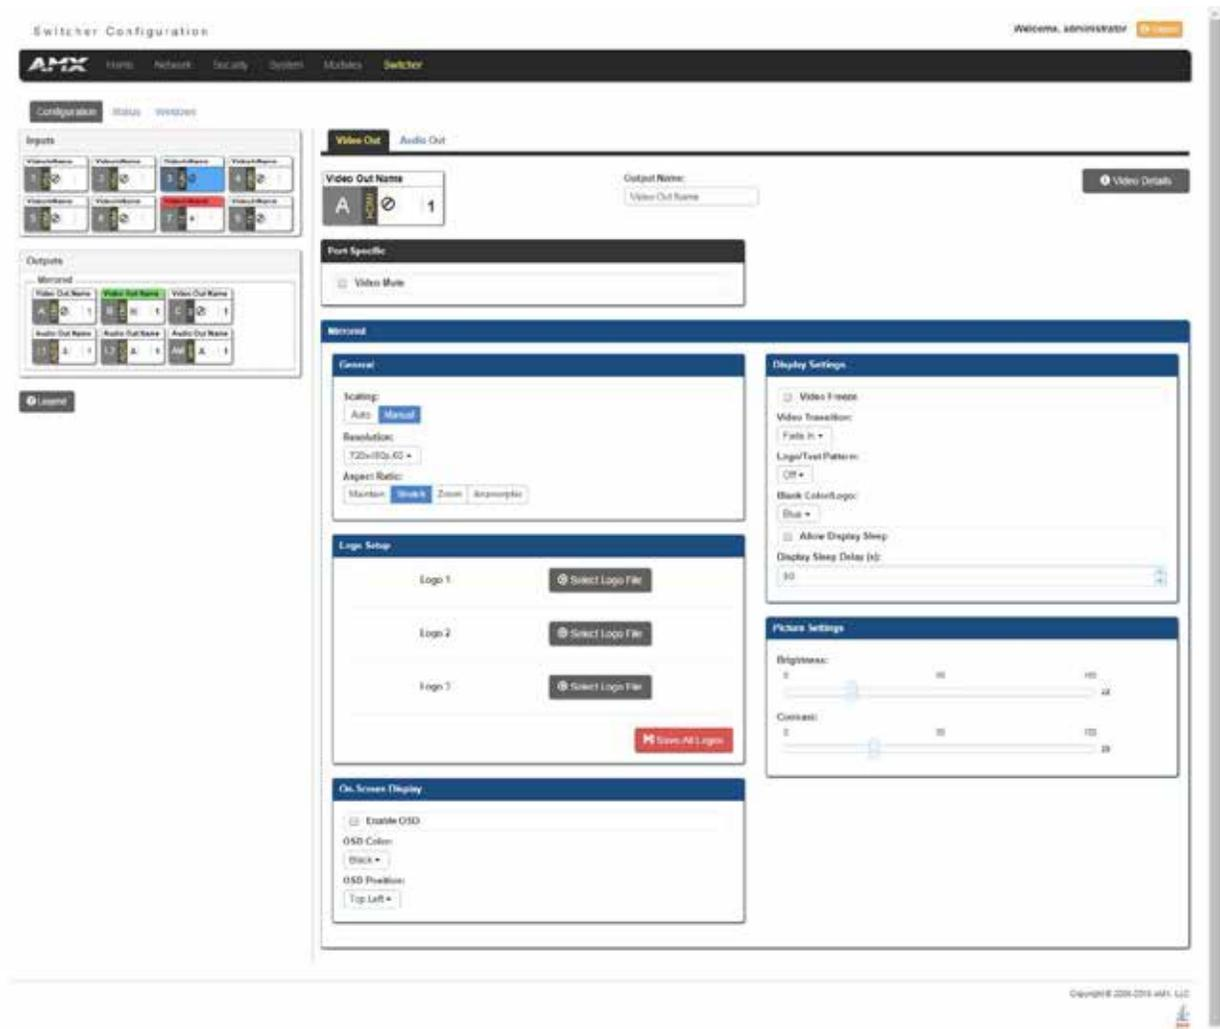

FIG. 96 WebConsole - Switcher Configuration page
2. Pass your pointer device over the **Switcher** tab so the drop-down menu appears, then select **Configuration**. The **Configuration** page opens, and the Video Out tab appears by default (see FIG. 96).